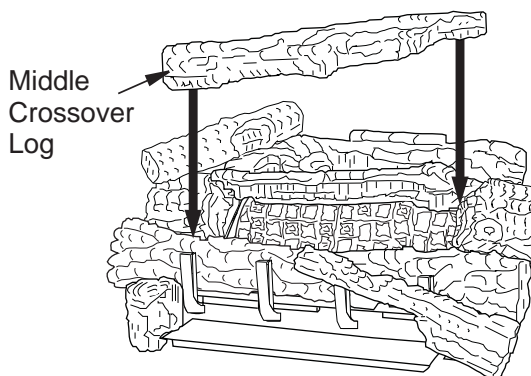

Figure 33 - Installing Middle Crossover Log
11. Rest the middle crossover log (18" D-070, 24" & 30" D-044) onto the right middle log and the left front log (see **Figure 33**). Make sure to match the projection on the bottom of the crossover log with the recess area in the right middle log and the left front log.